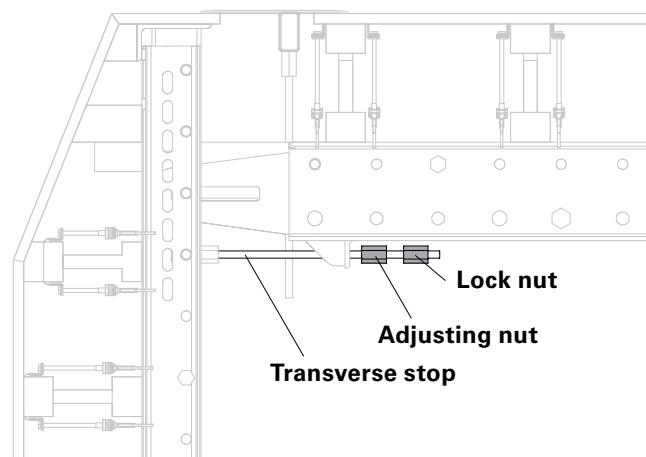

Fig. D1.03
7. Adjust the transverse stop of the wall formwork and secure with a lock nut. (Fig. D1.03)